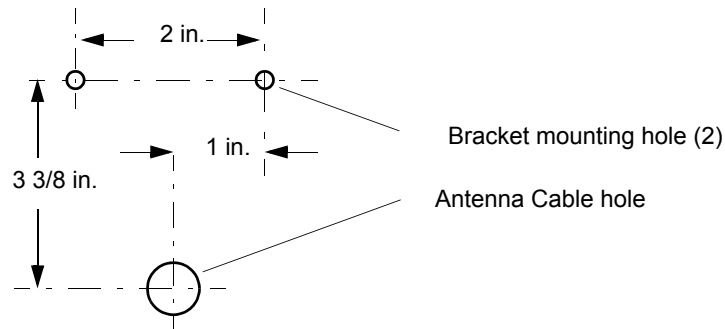

Figure 3-13. Hole Spacing
2. Use Figure 3-13 to determine the spacing of the 2 holes for mounting the bracket, and the distance to the hole for passing the cable into the building.